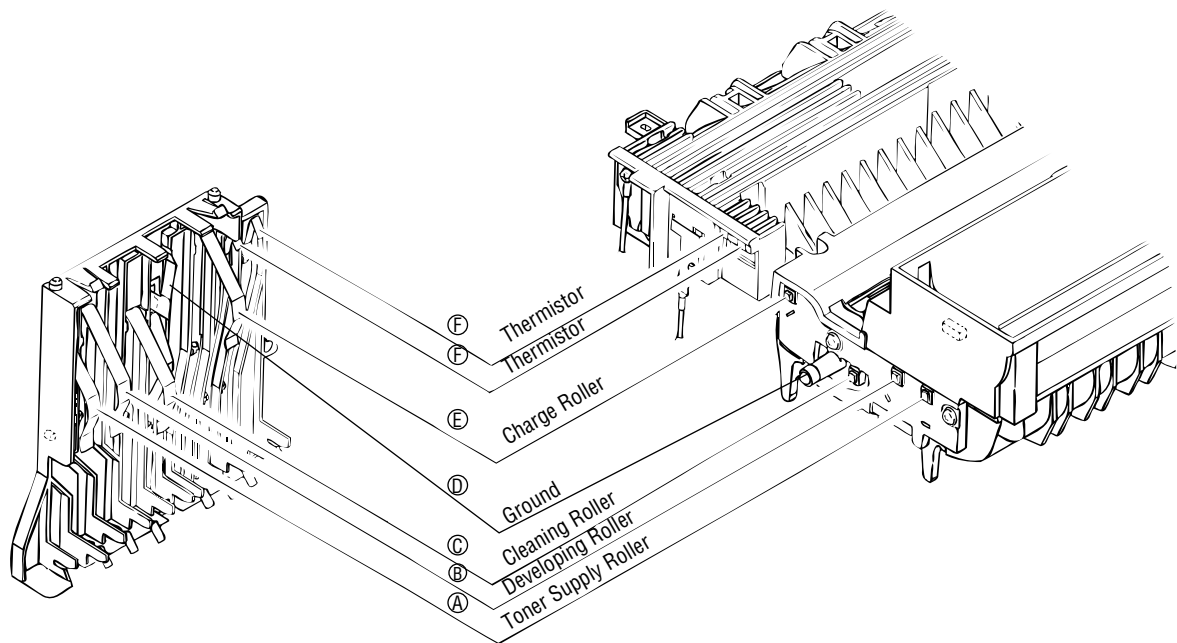

Figure 6-5
① Image are light or blurred a whole.
② Dark background density
- ▼ No Is the contact of the cleaning roller of the image drum cartridge contacted with e contact assembly properly? (See Figure 6-5 ③.)
③ Black paper is output.
- ▼ Yes Is the contact of the image drum cartridge contacted with the ground contact properly. (See Figure 6-5 ④.)
(See Figure 6-5 **G**.)